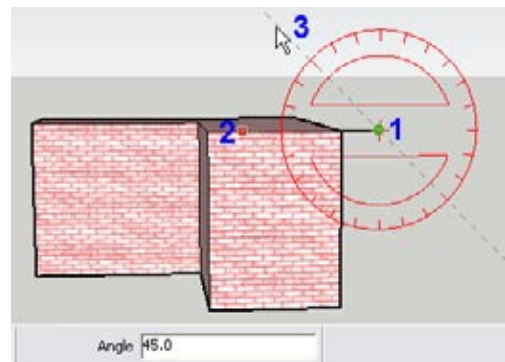

Figure 4-44
3. The Protractor tool (Tools→Protractor) is used to create an angled construction line at a known angle from an existing edge. Activate Protractor and click points 1 and 2 in Figure 4-44 to set the baseline for the construction line along the top of the building. Then move the mouse up and click point 3 to create the construction line at a 45-degree angle. (You can look for this angle in the Angle field, or type 45 and press Enter.)